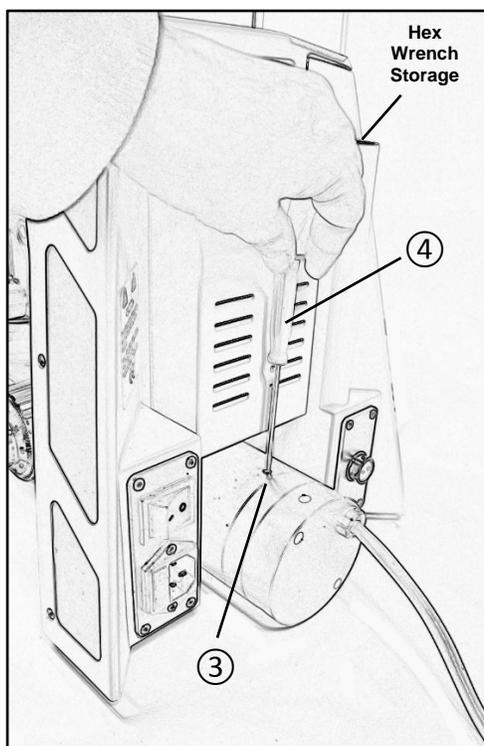

Fig. 2
Gently slide the lamp housing onto the lamp housing receptacle (2) and tighten the set screw (3) with the included Hex wrench (4) (Fig. 2).